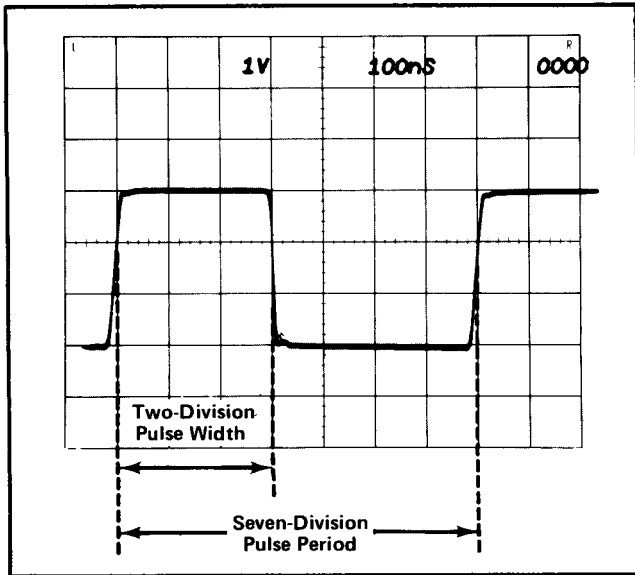

Fig. 5-1. Pulse generator output waveform for checking external gate operation.
f. Set the pulse generator variable width control for a two-division positive-pulse width (measure the pulse width where the positive-pulse amplitude is two divisions, as shown in Fig. 5-1).